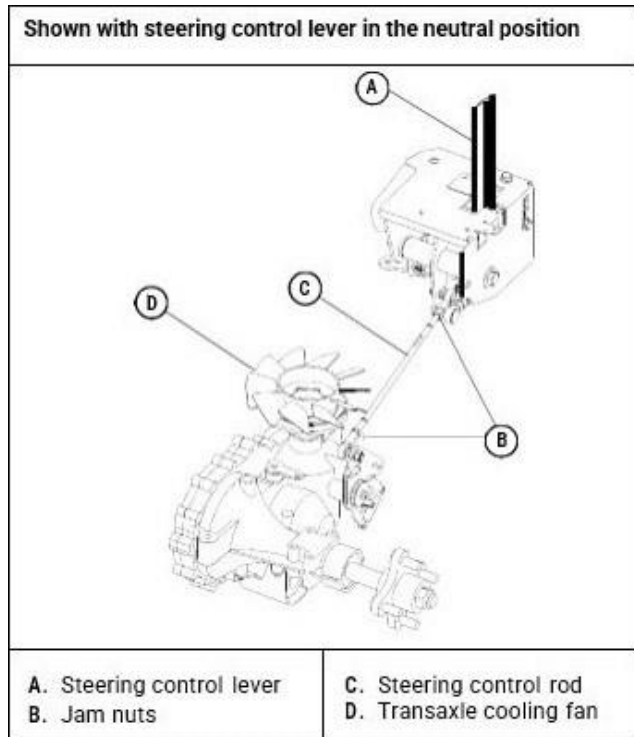

Figure 2
4. Loosen the jam nuts on each end of the steering control rod assemblies. [Figure 2]
- From that point, turn the steering rod back again 1/2 turn. This ensures that the steering rod is adjusted so that the transmission control arm is centered in the neutral band of the transmission. [Figure 2]